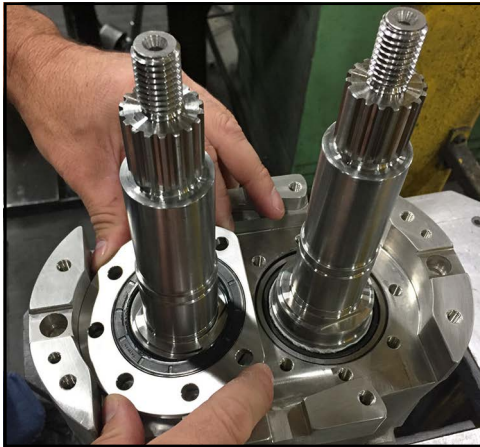

Figure 210 - Install bearing retainer
10. Install the bearing retainer on the shaft. Make sure the flat side of the bearing retainer faces the middle of the pump as shown in Figure 210.